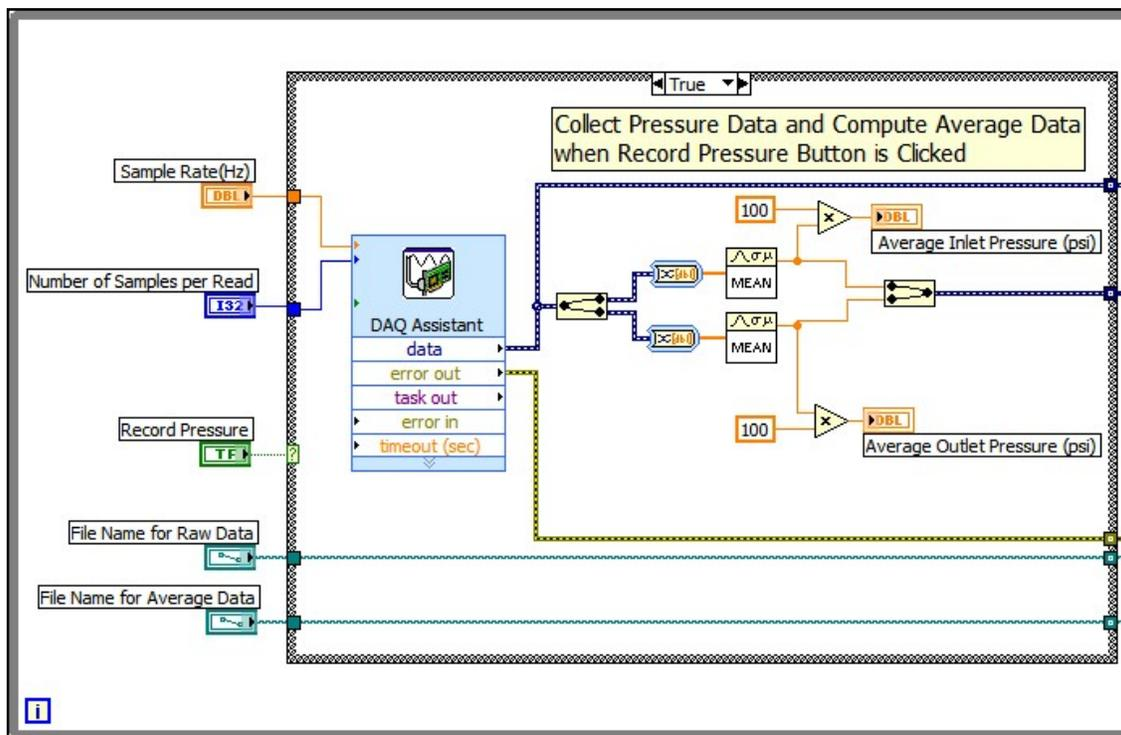

Fig. 3. Reading Inlet and Outlet Pressure Data and Computing Averages
- After the **Record Pressure** button is clicked (turned **ON**), the data collection process begins. See Fig. 3.